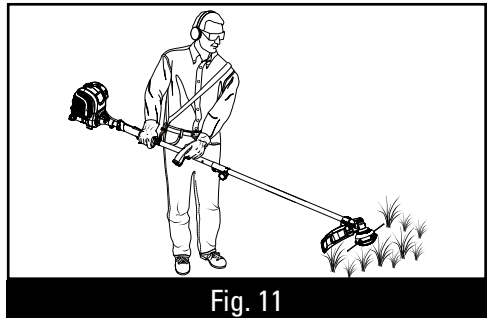

Fig. 11
- Hold the trimmer with your right hand on the rear handle and your left hand on the front handle. Keep a firm grip with both hands while in operation. Trimmer should be held at a comfortable position with the rear handle about hip height, Fig.11.